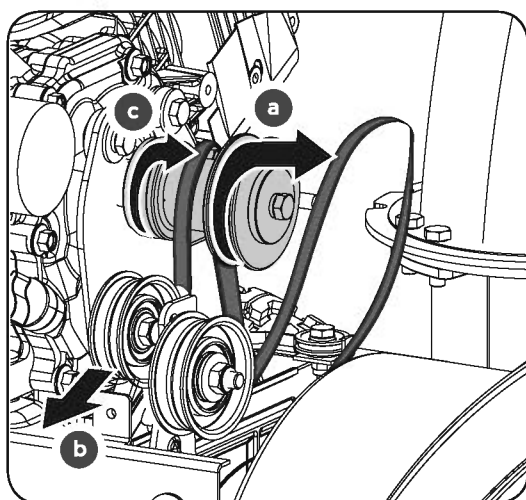

Figure 17a
- c. Lift the drive belt off engine pulley. (See **Figure 17a**)